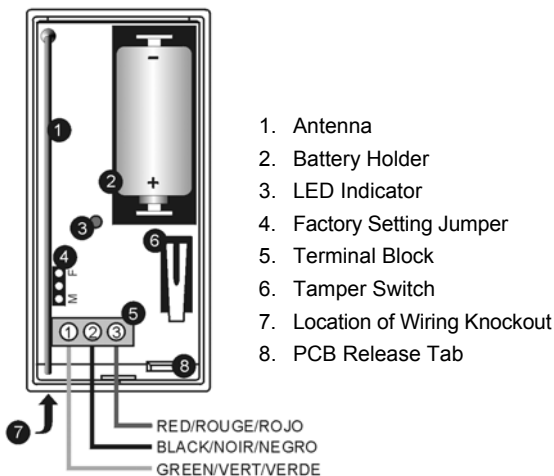

Figure 2: WD861 Transmitter (Cover Off)
7. Knockout the wiring hole in the back cover – see Figure 2.
10. Connect the sensor's cable to the terminal block as shown in Figure 2